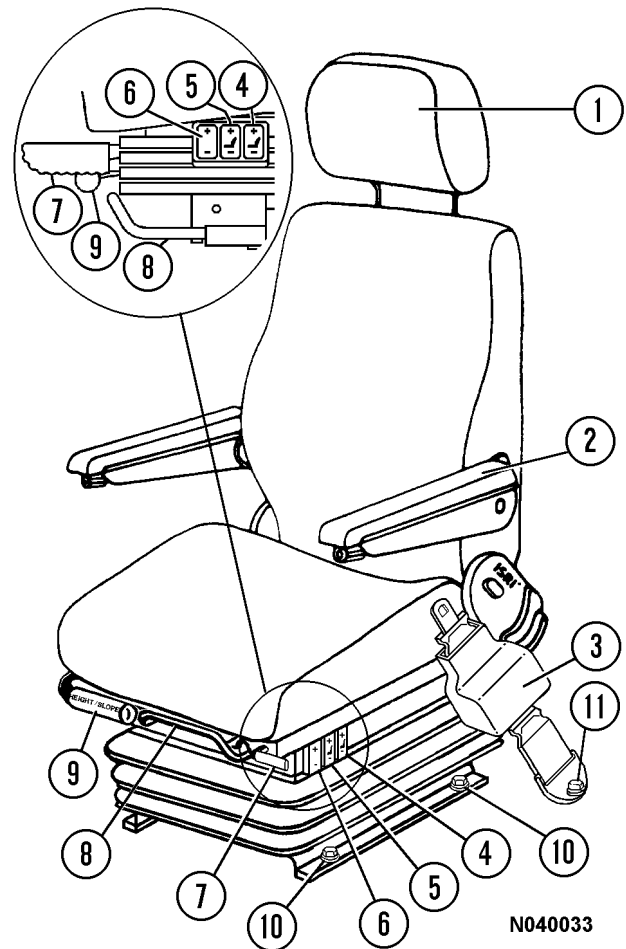

FIGURE 3-5. OPERATOR'S SEAT
1. **Headrest:** headrest (1, Figure 3-5) will move up, down, fore, or aft by moving headrest to desired position.
- 4 & 5. **Air Lumbar Support:** Each rocker switch (4 or 5) controls an air pillow. Switch (5) controls the lower air pillow and switch (4) controls the upper air pillow. To inflate, press on top of rocker switch and hold for desired support, then release. To deflate, press on bottom of rocker switch and hold for desired support, then release. Adjust each pillow for desired support.
6. **Seat Height:** Press rocker switch (6) on top to increase ride height. Press on lower part of rocker switch to lower ride height.
7. **Backrest:** Pull control (7) upward and hold, select backrest angle; release control handle.
- a. Raise adjustment lever (8).
- a. Front height and slope; lift control lever (9) and hold.
1. Remove capscrews (10, Figure 3-5) and hardware that secures the seat base to the riser. Remove capscrews (11) that secures tether to floor.
1. Mount seat assembly to seat riser. Install capscrews (10, Figure 3-5), lockwashers, flatwashers and nuts. Tighten capscrews to standard torque.
2. Fasten tether straps to floor with capscrews (11), flatwashers and lockwashers. Tighten capscrews to standard torque.